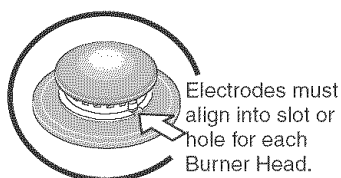
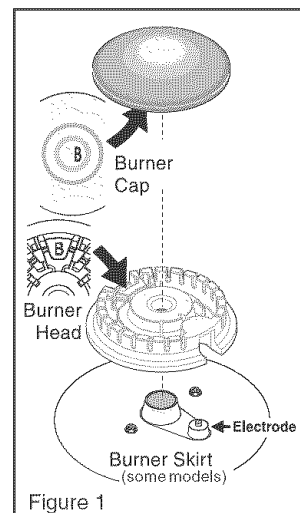

Figure 2
Figure 1
3. To replace the Burner Heads & Caps, match the letters located under center of Burner Caps with the letters located inside Burner Heads (Figure 1).
4. Match Burner Skirts (some models) or the emboss on the cooktop with Burner Heads and Burner Caps (see Figure 1). Replace the Burner Heads and Caps on cooktop (see Figure 2). Carefully align the Electrodes into slot or hole of each Burner Head (Figure 3). Note: The Burner Heads should sit flat on Cooktop Burner Skirts.